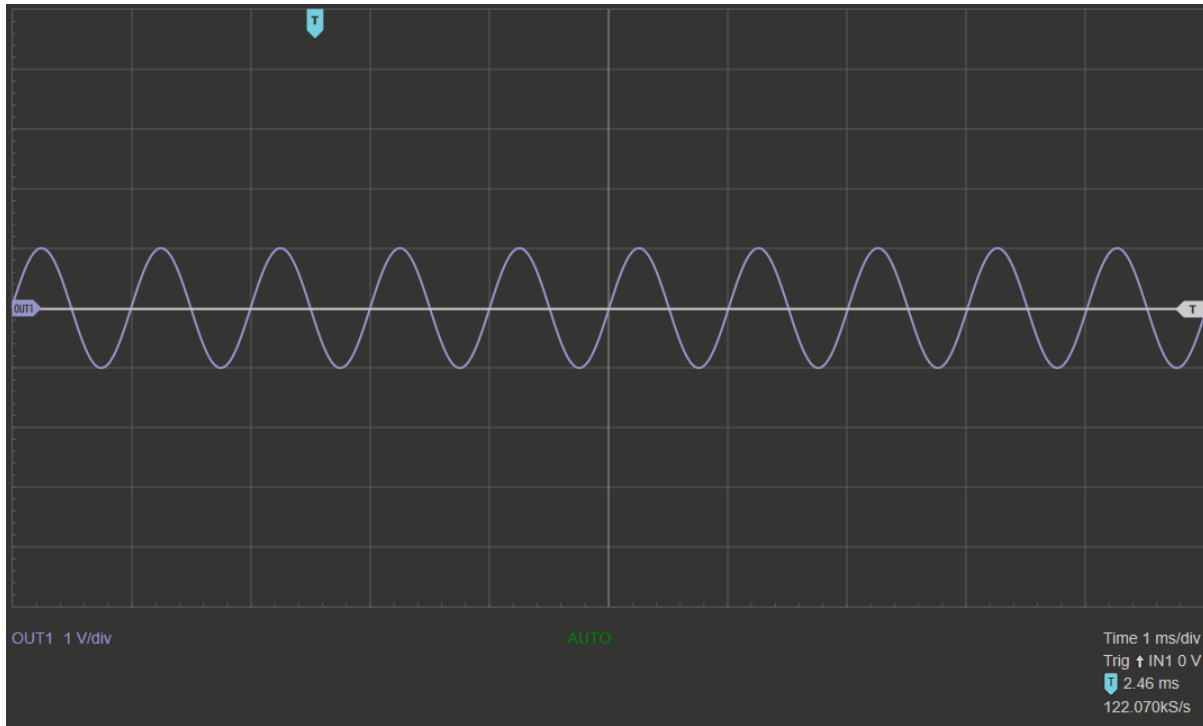

Figure 3: Output from Board 1
1. At the end of step 1, the output from board 1 is shown in Figure 3 below:
- a. Note the signal is zoomed in at 20mV/div vs the 1 V/div shown in Figure 3